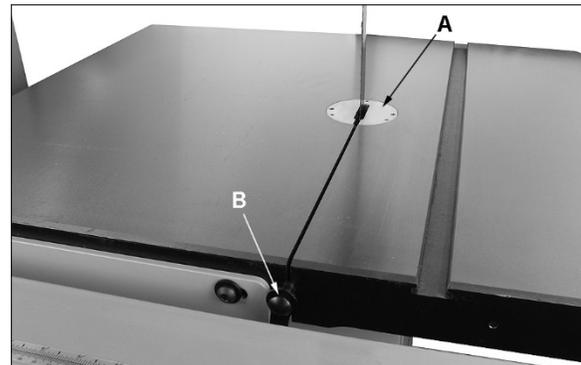
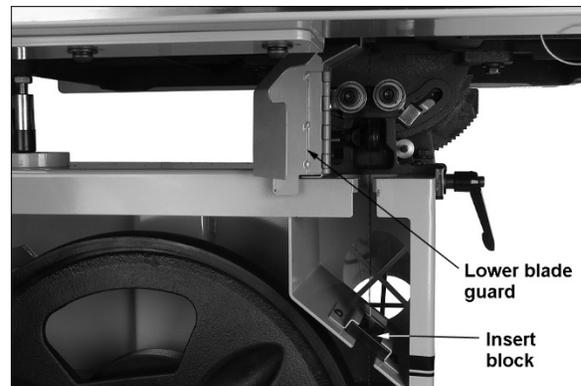

Figure 22: blade removal
Figure 23
Refer to Figures 22 and 23.
2. Remove table insert (A, Figure 22).
3. Pull out table pin (B) at end of slot.
6. Open upper and lower doors by rotating door catches. Open lower blade guard and remove insert block (Figure 23).
10. Re-install table insert (A) and table pin (B).